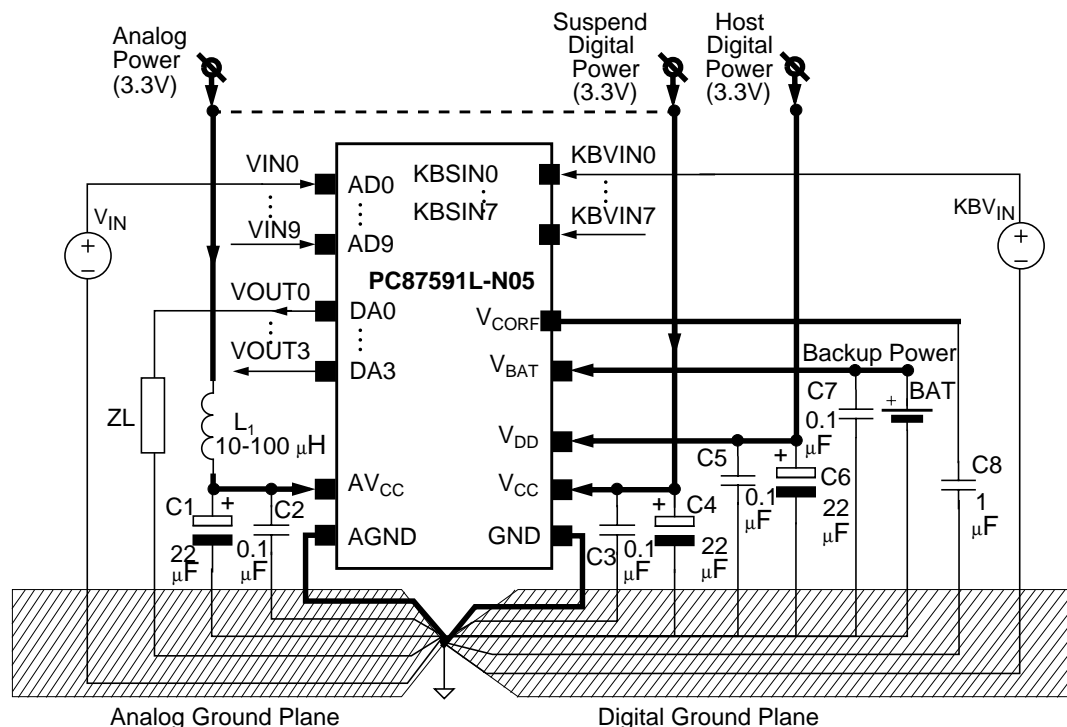

Figure 9. PC87591L-N05 Power Supply Connection
The following directives are recommended for the PC87591L-N05 power and ground connections (see Figure 9 for the power supply connections):
- The ground reference of the voltage input signals to the ADC module (V_{IN0-9} in Figure 9) should be connected to the AGND plane close to the PC87591L-N05.
- The ground reference of the voltage output signals from the DAC module (V_{OUT0-3} in Figure 9) should be connected to the AGND plane close to the PC87591L-N05.
- The ground reference of the voltage input signals to the ACM module (KBV_{IN0-7} in Figure 9) should be connected to the GND plane close to the PC87591L-N05.
The analog supply pin, AV_{CC} , should be connected to a low-noise power supply that has the same voltage as the digital supply (3.3V). If the AV_{CC} pin is connected to the same power supply as the V_{CC} pin, it is recommended to use an external LC or RC filter for the AV_{CC} pin. An example of an LC filter [L_1 and (C_1+C_2)] is shown in Figure 9. An RC filter is obtained by replacing L_1 (in Figure 9) with a 10Ω resistor (not shown in the figure).
The following decoupling capacitors should be used to reduce power supply deeps, ground bounce and EMI (refer to Figure 9 for the position of capacitors, e.g., C1, C2, etc.):